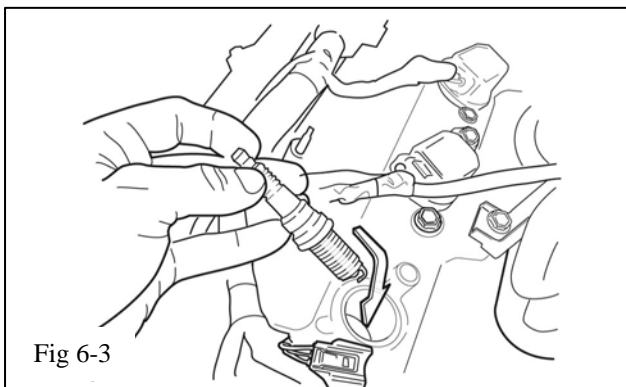

Fig 6-3
- (c) Remove the 6 spark plugs and discard them in a box for the customer. New colder plugs will be installed (Fig 6-3).